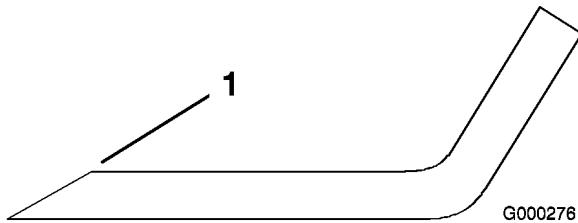

Figure 70
1. Use a file to sharpen the cutting edge at both ends of the blade (Figure 70). Maintain the original angle. The blade retains its balance if the same amount of material is removed from both cutting edges.